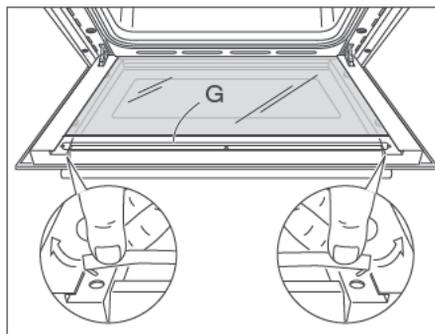

Fig.25d
- Remove the seal "G" by unhooking the two fixing hooks (Fig. 25d).